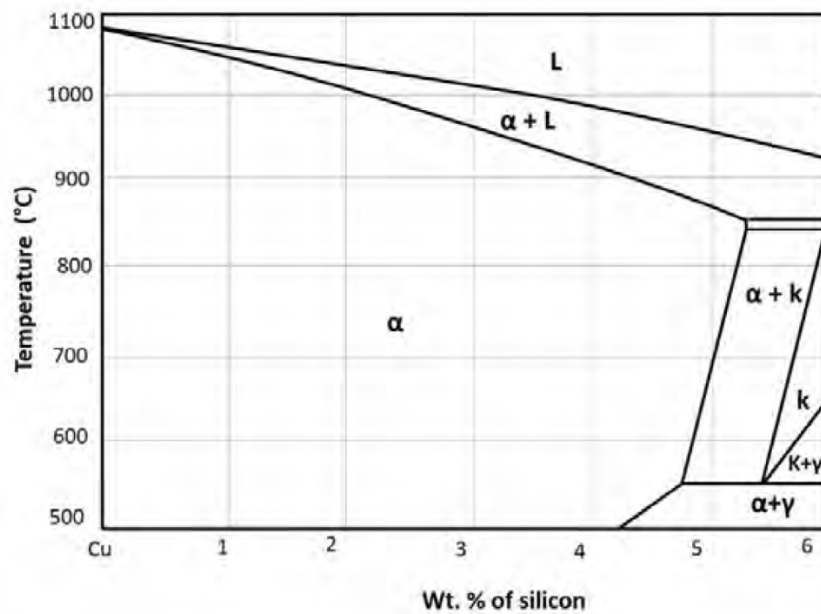

Fig. 3.5: Phase diagram of copper–silicon system.
- **DIAGRAM REFERENCE:** FIG. 3.5 - CU-SI PHASE DIAGRAM.